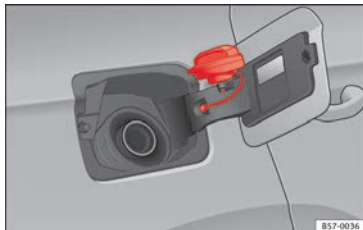

Fig. 58 Fuel tank flap with tank cap attached.
- Place it in the space on the hinge of the open flap » **Fig. 58.**